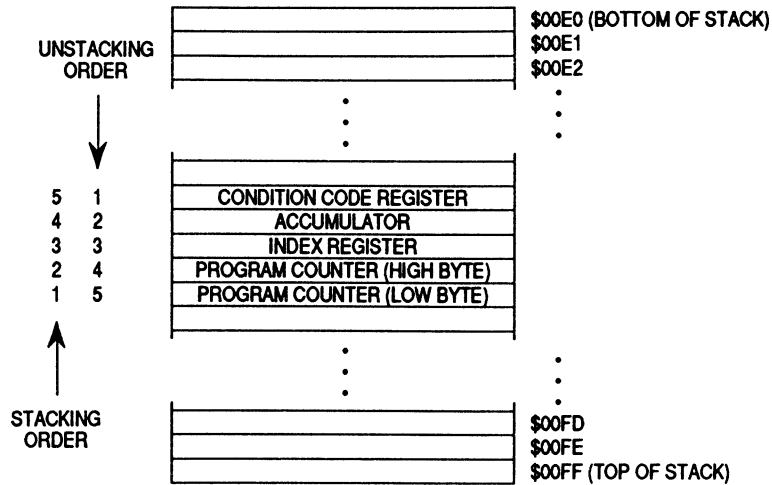

Figure 4-2. Interrupt Stacking Order
- Stores the CPU registers on the stack as shown in Figure 4-2
The return from interrupt (RTI) instruction causes the CPU to recover the CPU register from the stack as shown in Figure 4-2.